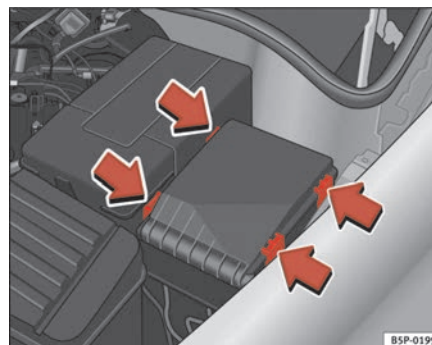

Fig. 161 Fuse box cover in engine compartment
- Prise off the fuse cover in the engine compartment by pressing the tabs towards the centre of the cover ⇒ fig. 161.